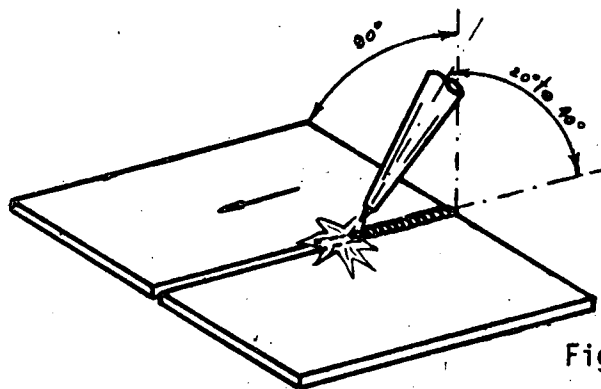

Fig. 3
- a) Incline tip with regard to the workpiece (fig. 3) and preheat the base metal on starting the bead.